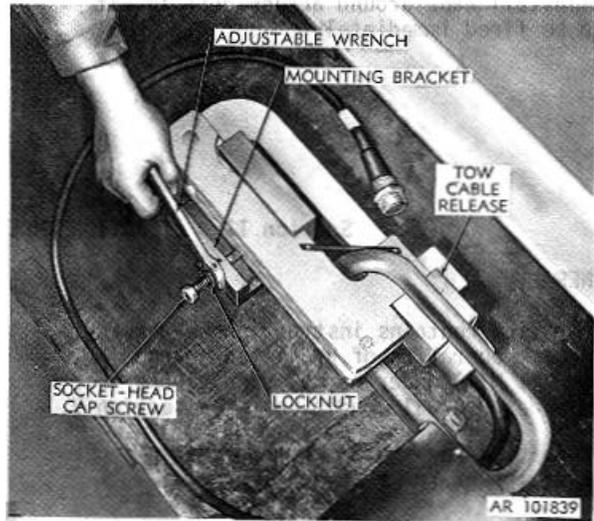

Figure 2-6. Loosening locknut and cap screw which secure tow cable release.
- d. Use adjustable wrench to loosen locknut on socket-head cap screw which secures tow cable release in its mounting bracket (fig. 2-6). Loosen the cap screw (pliers may be needed) and remove tow cable release (with attached tow ring) from its stowed position on floor of compartment. Put aside until required for use.